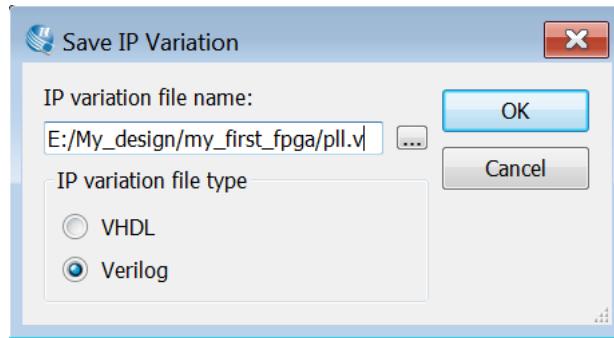

Figure 3-8 Save IP Variation Selections
4. In Svc IP Variation, specify the following selections (see **Figure 3-8**)